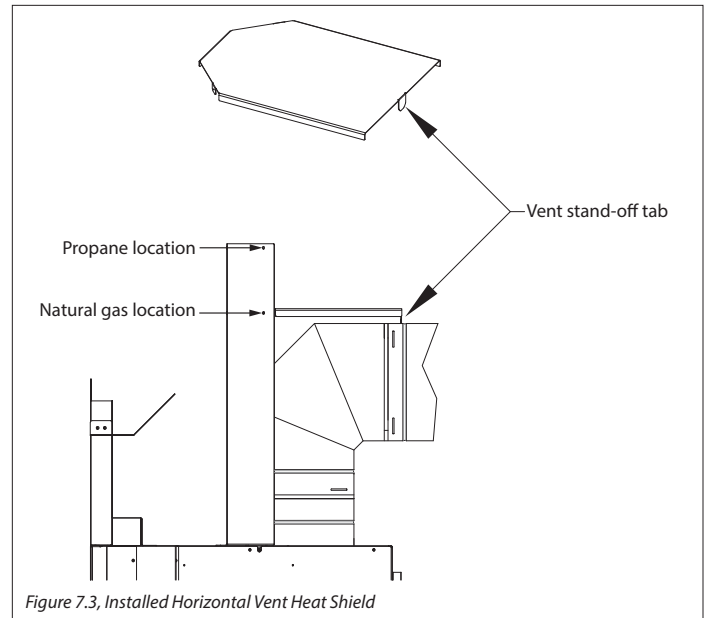

Figure 7.3, Installed Horizontal Vent Heat Shield
1. Bend perforation on the (3) hand-tabs down on the horizontal vent heat shield.
2. Locate (3) screw holes on the vertical vent heat shield. There are (2) sets of screws holes, allowing for either natural gas or propane minimum horizontal venting. See Figure 7.3
3. Align the (3) slots on horizontal vent heat shield tabs to the corresponding (3) screws holes on the vertical vent heat shield necessary for your installation.